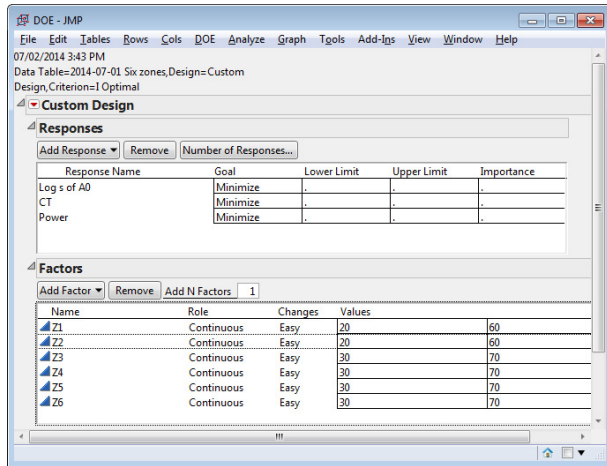

Figure 10: Factors & responses
measured process cycle time in minutes (CT) and the calculated power consumption. These responses have important financial implications in the form of plant throughput and energy costs. Figure 10 summarizes the final plan.